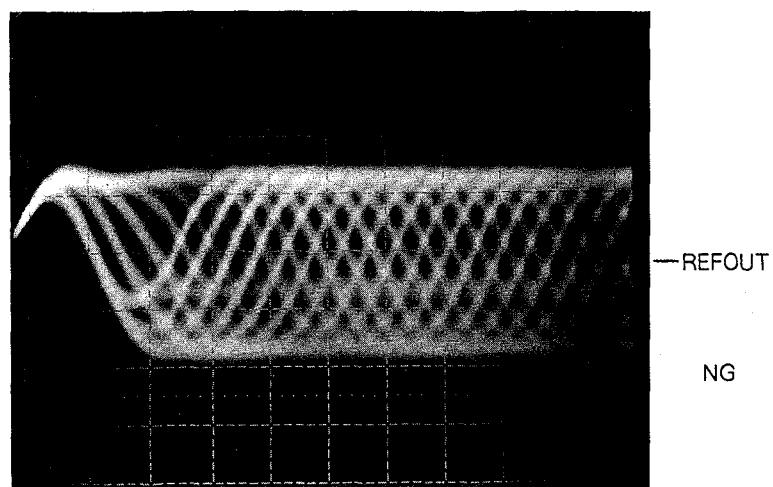

Fig. 12
- Adjust the tangential adjustment screw so that the RF wave-form will have a level maximized and an eye pattern clearly viewed. Turn the adjustment screw both clockwise and counterclockwise to points where the eye pattern deteriorates, and take the midway point as the adjustment point. As a general guide, look for an overall clear wave-form, and one of the diamond shapes in the eye pattern. The diamond shapes should appear in fine lines at the point of optimum adjustment. Take care not to knock the pick-up with the screwdriver at this stage. (This kind of accident can result in loss of focus.) (See Fig.12,13)